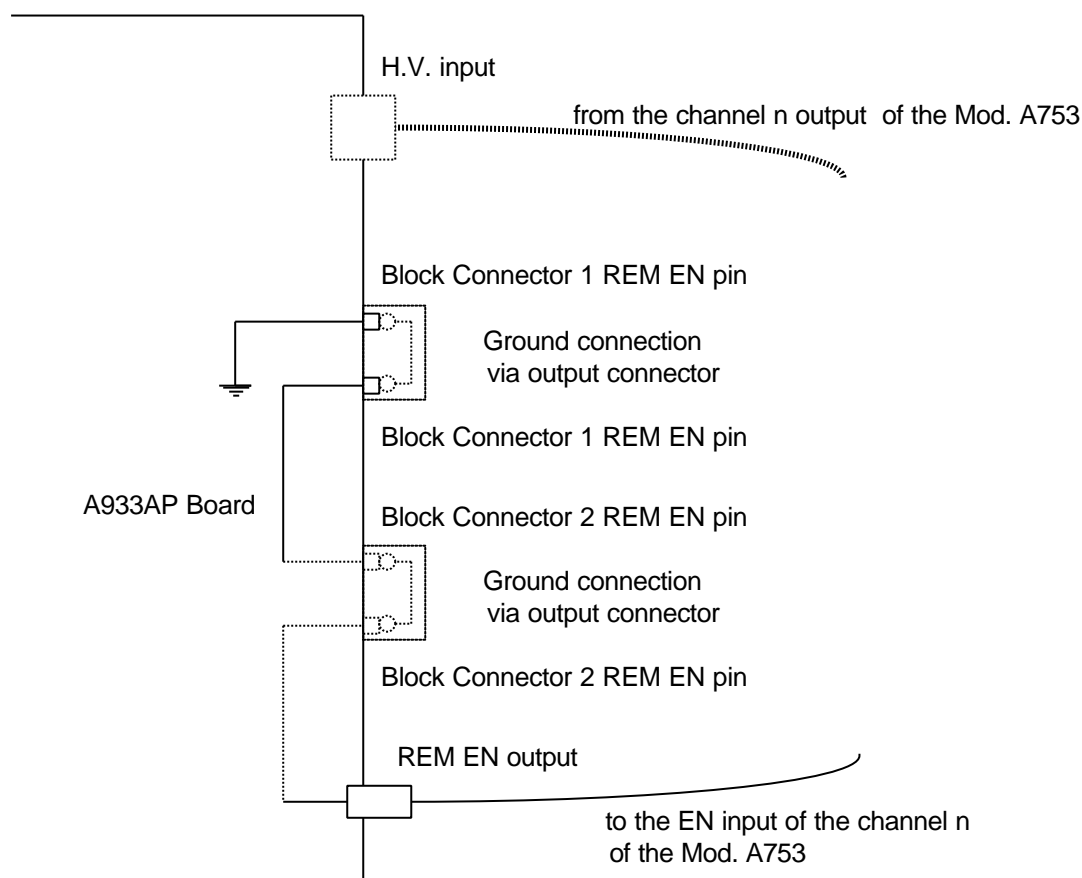

Fig. 2.6: Mod. A933A-A753 Remote Enable Scheme
Figure 2.6 describes this protection scheme and the required connections between the Mod. A933A and the Mod. A753.
N.B.: If there is High Voltage supplied on the H. V. input of the A933A board with other connection schemes different than the one shown in Fig. 2.6 (e. g., if a H. V. primary channel different from the A753 is used), there is ALWAYS High Voltage on the Multipin connectors. For ordinary functioning or for tests of the A933A board, it is strongly suggested to stick to the Remote Enable connection scheme to avoid any H. V. hazard.
When the Remote Enable connections are in place according to Fig. 2.6, even if all channels are set to OFF via terminal, H. S. CAENET or via front panel keyboard, this does NOT imply that there is no output voltage on the Multipin connectors.